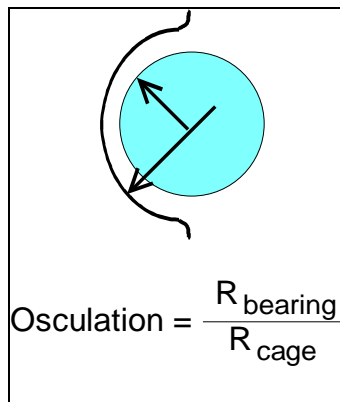

Figure 2. Osculation of bearing ( $R = \text{Radius}$ )
- A. Osculation: two levels of the ratio of the ball radius to the radius of the outer ring raceway. (See Figure 2.)